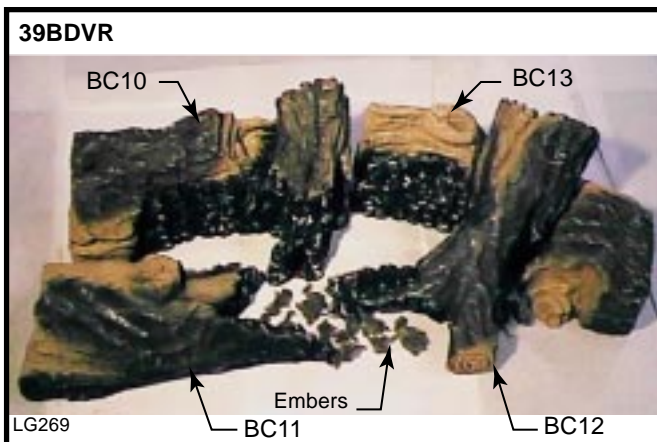

Fig. 40 39BDVR log placement.
Refer to Figure 40
7. Scatter the ember material over the front area of the burner housing assembly. (Fig. 40) Do not pack this material tightly, separate it when unpacked and keep it in a loose condition.